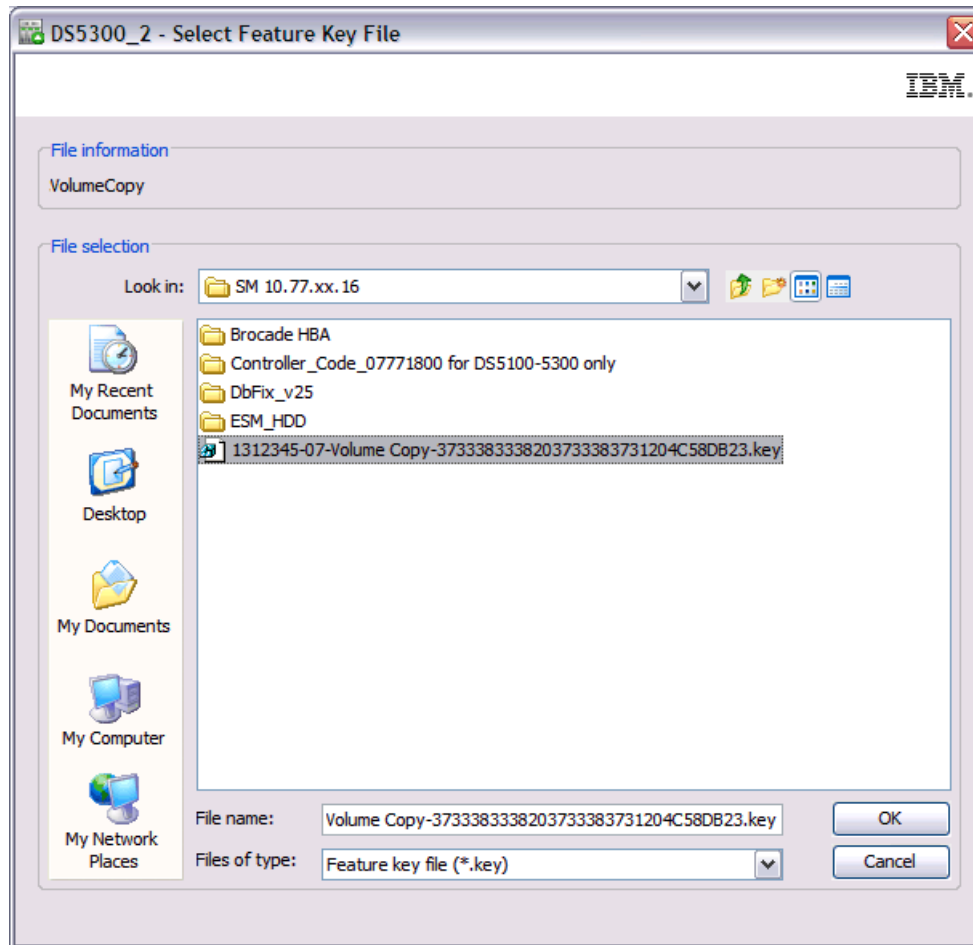

Figure 5-35 Select feature key file
8. Click **Enable** and select the premium feature key file to enable and click **OK**, as shown in Figure 5-35 on page 321.